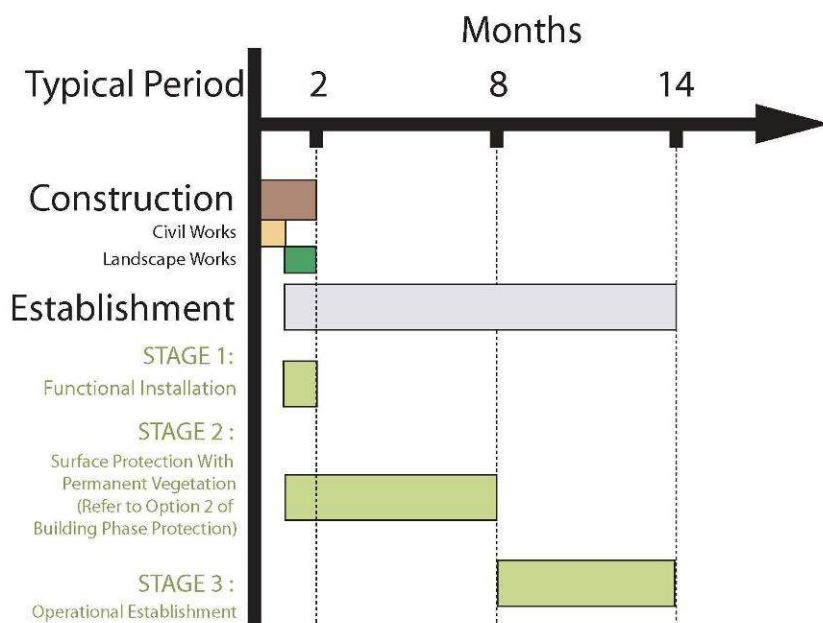

Figure 1: Stages of construction and establishment for bioretention systems retrofitted in urban catchments
1. During landscaping works and for 6 months after completion of WSUD civil works (Stage 1 and Stage 2 of Figure 1) retrofitted swales and bioretention systems should be protected from flowing stormwater by adopting surface protection measures.